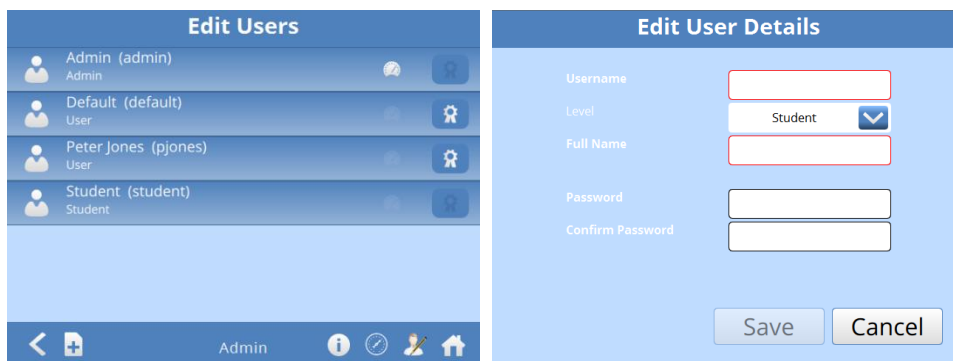

Figure 6-6. Creating/editing a user
2. Tap on the **Users** button. The *Edit Users screen* is displayed (see Figure 6-6).
2. Tap on the **Users** button. The *Edit Users* screen is displayed (see Figure 6-6).